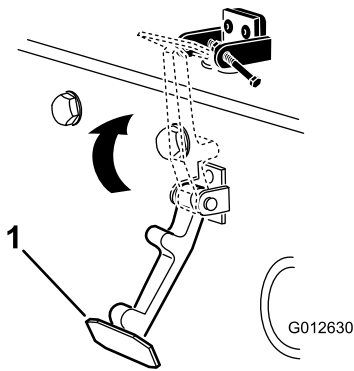

Figure 6
7. Hook the latch onto the hood-latch bracket (Figure 6).